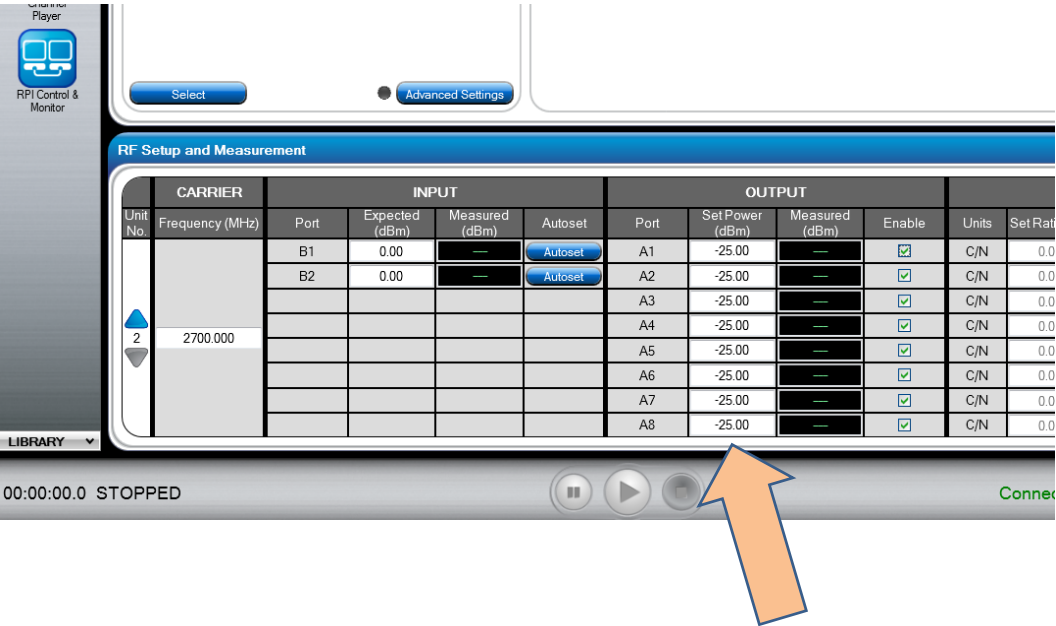

Figure 4-11: Unit 2 Power Settings
14. The settings for Unit 2 display, as shown in Figure 4-11.
- 15. Set the Power Output Levels for A1 through A8 to **-25 dBm**, as shown in Figure 4-11.